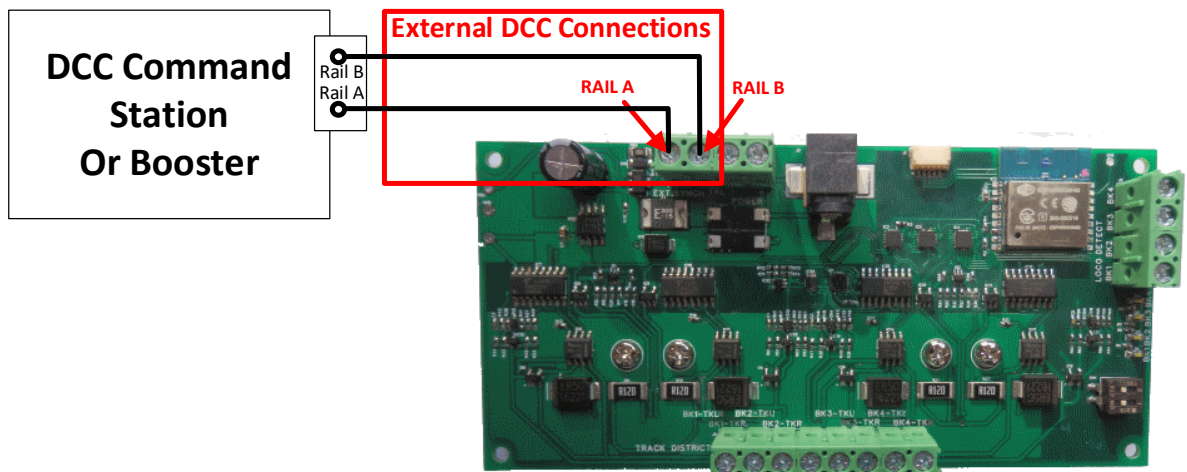

Figure 8 External DCC Connection
- (6) Turn on the power and test your installation. The simplest way to get a loco running is to install Loco Operator and follow the Install Wizard, declining the option to create a home net. Refer to the Tower Operator Quick Start, or Full Help Pages for instructions on setting up a schematic control panel on your Windows or Android computer or tablet.
- (7) You can optionally connect a DCC Command Station or Booster to the Ext inputs as shown in Figure 8. Refer to the Tower Operator Help Pages to find out how to use this mode of working.